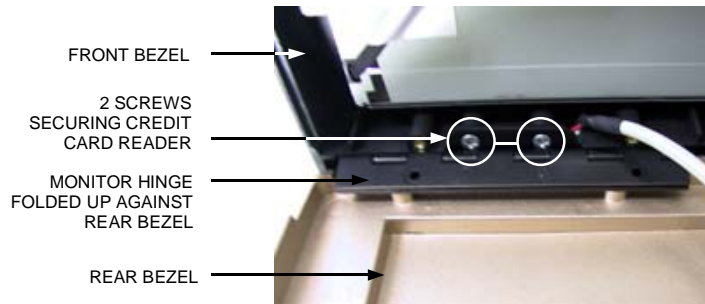

FIGURE 6 - CREDIT CARD READER SCREW LOCATION
8. Remove the 2 screws securing the credit card reader and remove the reader from the unit (see Figure 6).
2. Place the credit card reader back into the game (where you removed the the old reader from), then resecure with the 2 screws you removed earlier (see Figure 6).